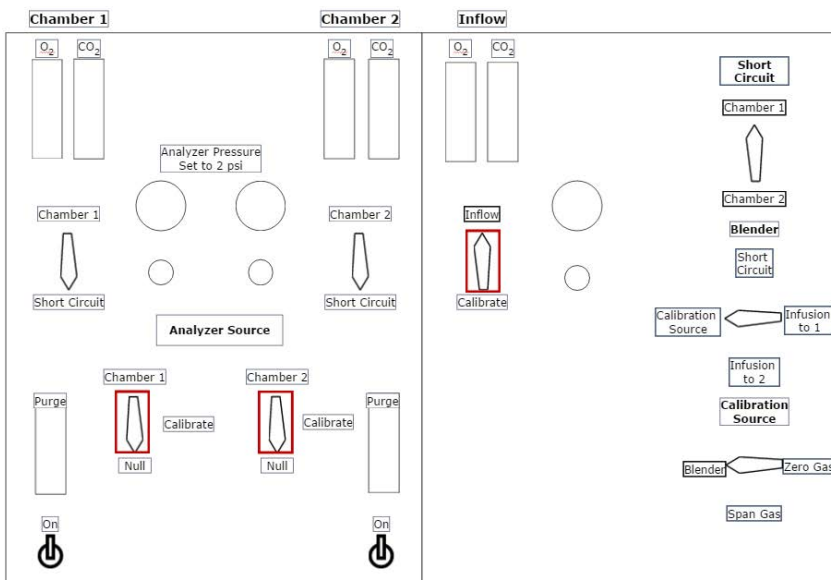

Figure 5. Panel layout for null test
2. Turn the Sample Source Valve to Null (Figure 5).